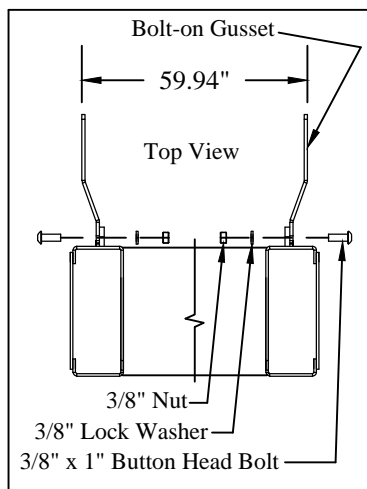

Figure 3: Top view of liftgate bolt-on gussets.
1. Install the eight (8) 3/8" x 1" button head bolts, lock washers, and nuts in the position shown for your configuration (Figure 3). z G²dual drive® bolt-on gussets and button head bolts go to the outside of the 1/4" x 1" strip.